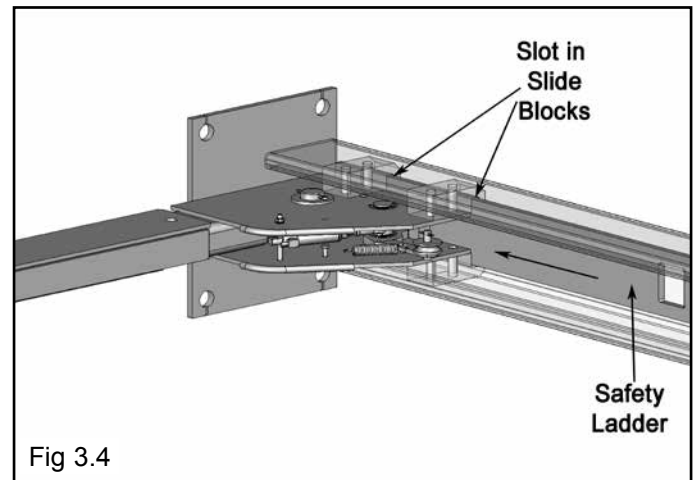

Fig 3.4
4. Install the Safety Ladders. Pass the Ladders through the Column openings and drop down through the Slide Block guide slots on the Cross Tube until the Ladders come to rest on the Base Plates. (See Fig. 3.4 - 3.5)